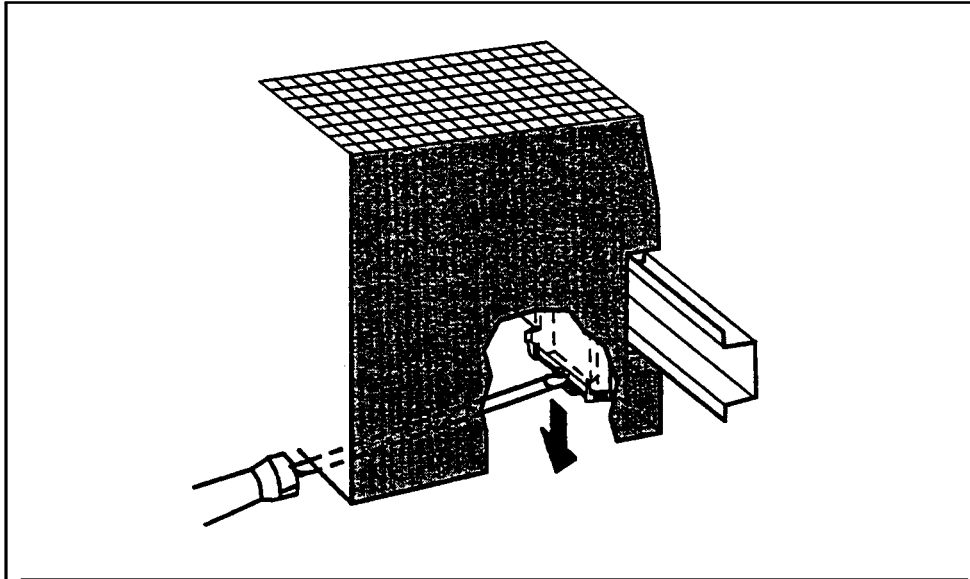

Figure 3-12 Dismantling an Interface Module
- Use a screw driver to press the catch at the bottom of the interface module down (→ Figure 3-12).